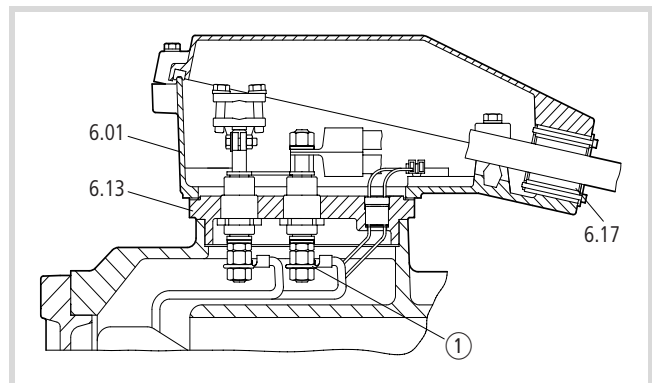

Figure 16: Terminal box with bolt-type gland
- ① Disconnection point
- ▶ Undo the retaining plate ① and nut (→ Fig. 16).